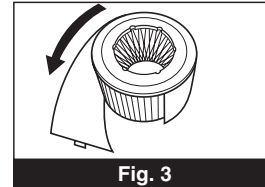

Fig. 3
Step 7: Carefully wrap the pre-filter around the HEPA filter so that the ends meet (Fig. 3). Fasten the ends together with the fastener provided.